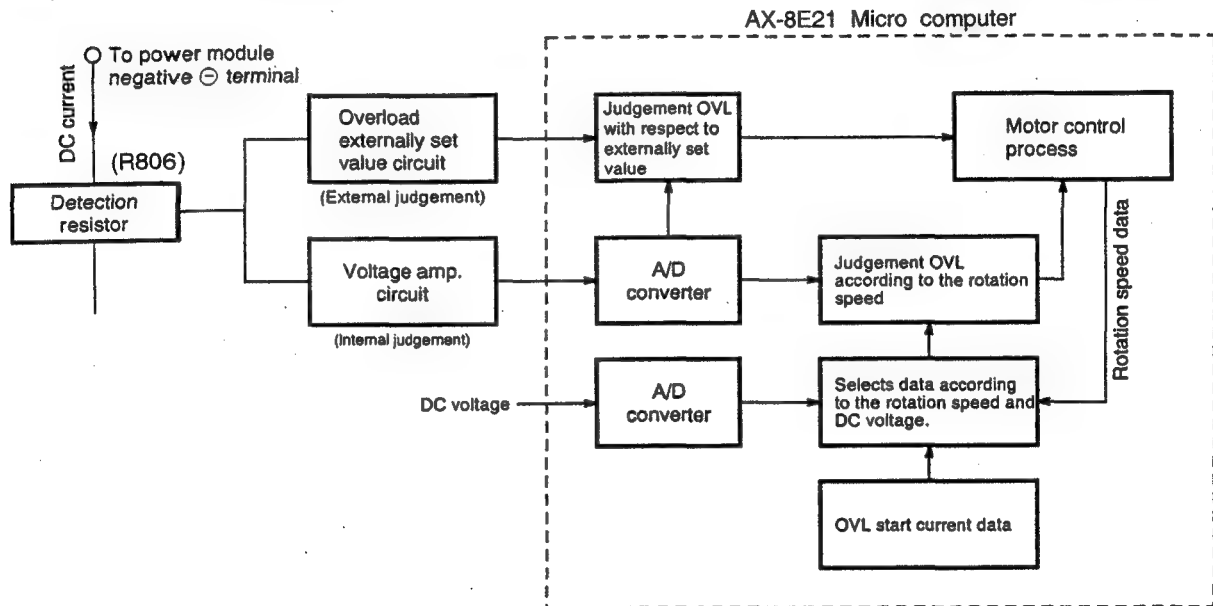
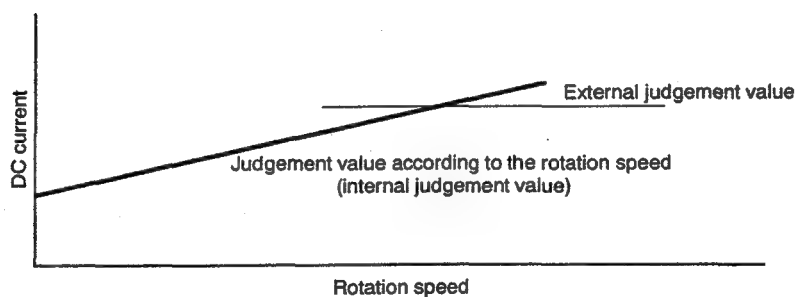

Fig. 8-4 Overload Control System Configuration
Fig. 8-5
- As shown in the figure, when current exceeding 18A flows, voltage at point ① detected by detection resistor is input to \oplus terminal of COM (A) . If it exceeds \ominus terminal voltage, which is set value, output pin voltage (point ②) of COM (A) changes from Lo to Hi. Thus, Q1 is turned ON to stop drive circuit and, at the same time, voltage at point ③ changes from Hi to Lo to send Ip signal to pin ② of microcomputer (observed by pin ③ of HIC) and microcomputer stops drive. .
- On the other hand, \oplus terminal voltage is pulled up by R1, and DC current becomes 0A. Even when voltage at point ① returns to 0V (power is not supplied - current value of zero), output is temporarily held in Hi state since voltage at \ominus terminal is high. (Memory function)
- Just before drive signal is output the next time, Microcomputer switches pin ② from Hi to Lo (observed by pin ③ of HIC), so that \oplus terminal voltage $<$ \ominus terminal voltage to release memory function and return to initial state.
(2) Overload control circuit (OVL control circuit)
- Fig. 8-4 shows the overload control system configuration and Fig. 8-5 is a characteristic diagram of overload judgement values. There are two judgement methods-external judgement which compares the externally set value with the DC current value regardless of the rotation speed and internal judgement which compares the set value that varies according to the rotation speed programmed in the micro computer software with the DC current value.